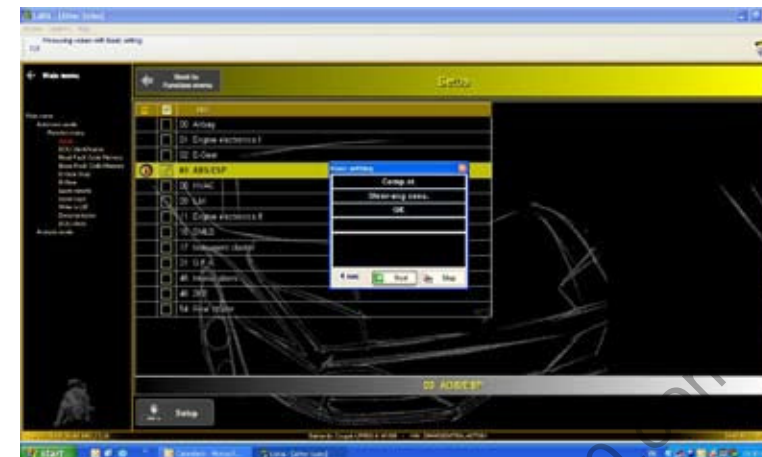

Fig.65
- Wait for the system to process the subsequent screen. Do not press anything (**Fig.65**).